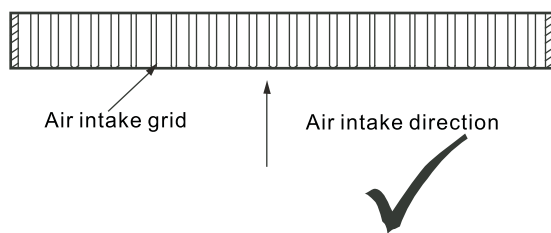

Figure 3.9
1) Pay attention to maintain the parallelism between the air grid angle and the air intake direction when you make the air intake panel of the air return box. Refer to Figure 3.9.